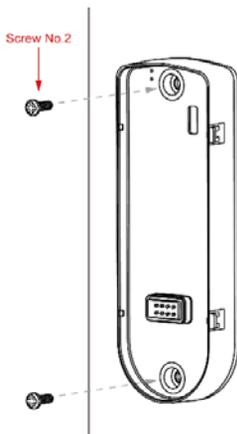

Figure 4-13 Installing the Screws
- Secure the bracket with screws (No.1 or No.2). Please see Figure 4-13.